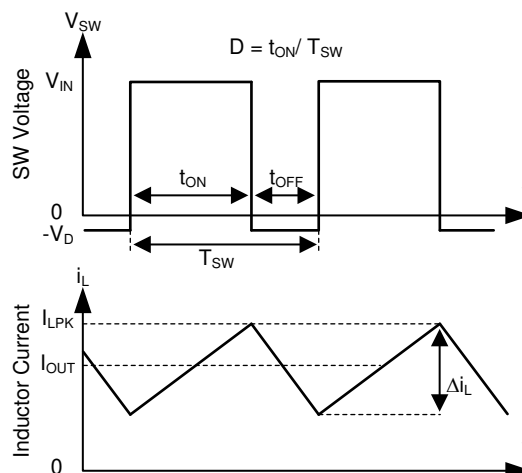

Figure 10-2. SW Node and Inductor Current Waveforms in Continuous Conduction Mode (CCM)
The following operating description of the TPS2585x-Q1 refers to the Functional Block Diagram. The TPS2585x-Q1 integrates a monolithic, synchronous, rectified, step-down, switch-mode converter with internal power MOSFETs and USB current-limit switches with charging ports auto-detection. The TPS2585x-Q1 offers a compact and high efficiency solution with excellent load and line regulation over a wide input supply range. The TPS2585x-Q1 supplies a regulated output voltage by turning on the high-side (HS) and low-side (LS) NMOS switches with controlled duty cycle. During high-side switch ON time, the SW pin voltage swings up to approximately V_{IN} , and the inductor current, i_L , increase with linear slope $(V_{IN} - V_{OUT}) / L$. When the HS switch is turned off by the control logic, the LS switch is turned on after an anti-shoot-through dead time. Inductor current discharges through the LS switch with a slope of $-V_{OUT} / L$. The control parameter of a buck converter is defined as Duty Cycle $D = t_{ON} / T_{SW}$, where t_{ON} is the high-side switch ON time and T_{SW} is the switching period, shown in Figure 10-2. The regulator control loop maintains a constant output voltage by adjusting the duty cycle D. In an ideal buck converter, where losses are ignored, D is proportional to the output voltage and inversely proportional to the input voltage: $D = V_{OUT} / V_{IN}$.